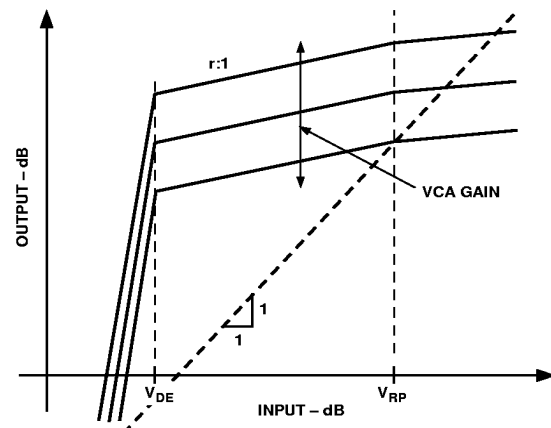

Figure 18. Effect of Varying the VCA Gain Setting
**VCA Gain Setting and Muting.** The maximum gain of the SSM2166 is set by the GAIN ADJUST pin (Pin 2) via  $R_{GAIN}$ . This resistor, with a range between 1 k $\Omega$  and 20 k $\Omega$ , will cause the nominal VCA gain to vary from 0 dB to approximately 20 dB, respectively. To set the VCA gain to its maximum can also be achieved by leaving the GAIN ADJUST pin in an OPEN condition (no connect). Figure 18 illustrates the effect on the transfer characteristic by varying this parameter. For low level signal sources, the VCA should be set to maximum gain using a 20 k $\Omega$  resistor.